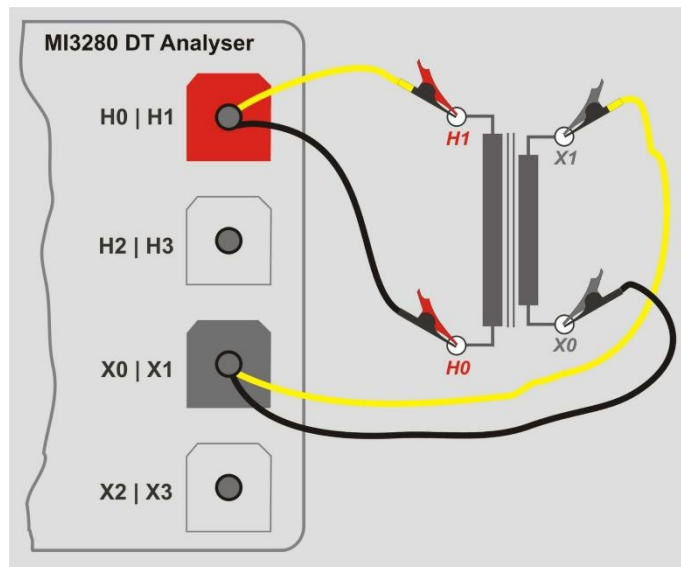

Figure 11.18: *H* and *X* side winding resistance measurement of single-phase transformer
Winding resistance of single-phase transformer can be measured by selecting single test R . Single-phase transformer winding resistance testing is divided into two parts: measurement of resistance of high voltage winding (H) and/or of low voltage winding (X) regarding to parameter *Side to measure*. The complete test can be made by setting parameter *Side to measure* to *Both*. Connection is shown in Figure 11.18.
To measure winding resistance of a single-phase transformer you need to connect **H1|H0** connector (red terminal: black and yellow wires) and/or **X1|X0** connector (grey terminal; black and yellow wires) to appropriate MI 3280 DT Analyser socket, like shown in Figure 11.18. Both pair of probes (*H* and *X*) can be connected, nevertheless which side is to be measured.